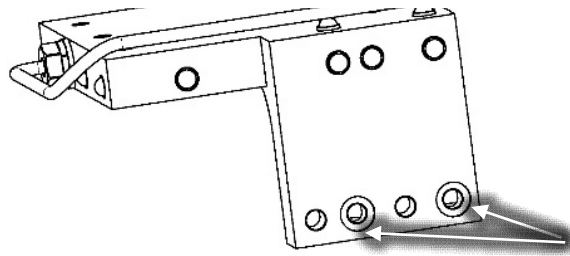

Figure 22 –SCR Cooling Manifold O-ring Installation
1. Apply O-Lube to the O-rings provided and install them into the SCR cooling manifold. Refer to Figure 22 (SCR Cooling Manifold O-ring Installation).